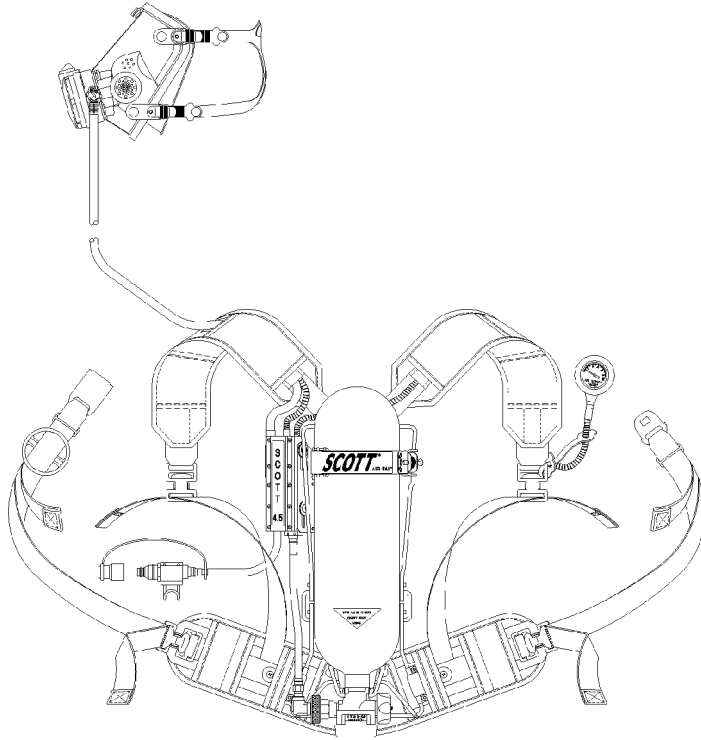

Figure 077-3-1. Self-Contained Breathing Apparatus (SCBA)
**077-3.2.2 DESCRIPTION.** The SCBA system is comprised of SCBA backpack and additional spare air cylinders, plus any of the following depending upon individual ship configurations: fixed air charging stations, high pressure filter assemblies, air booster pumps, and a portable diesel and / or electric compressor as illustrated in Figures 077-3-1 through 077-3-3.
**077-3.2.2.1** The SCBA (Figure 077-3-1) is an atmosphere-supplying respirator that supplies a breathable air source that is independent of the ambient environment and designed to be carried by the user. Table 077-3-2 provides a quick reference for all four SCBA configurations that are found in the Navy's inventory. The basic SCBA consists of five major components: cylinder assembly for storing compressed breathing air, a backframe and har-